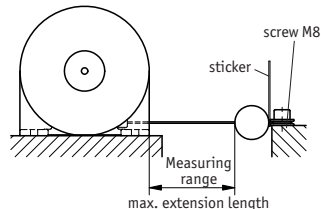

Fig. 2: Measuring range
- Fix the wire end, e. g. by using a screw M8 (fig. 2).
The sticker on the wire end should be attached visibly at the mounting place (fig. 2).